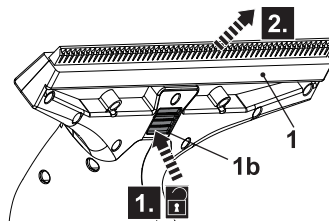

Fig. 3
- > Press the attachment lock (1b) and hold it in position (Fig. 3, step 1).
- > Pull out the suction attachment (1) from the product (Fig. 3, step 2).